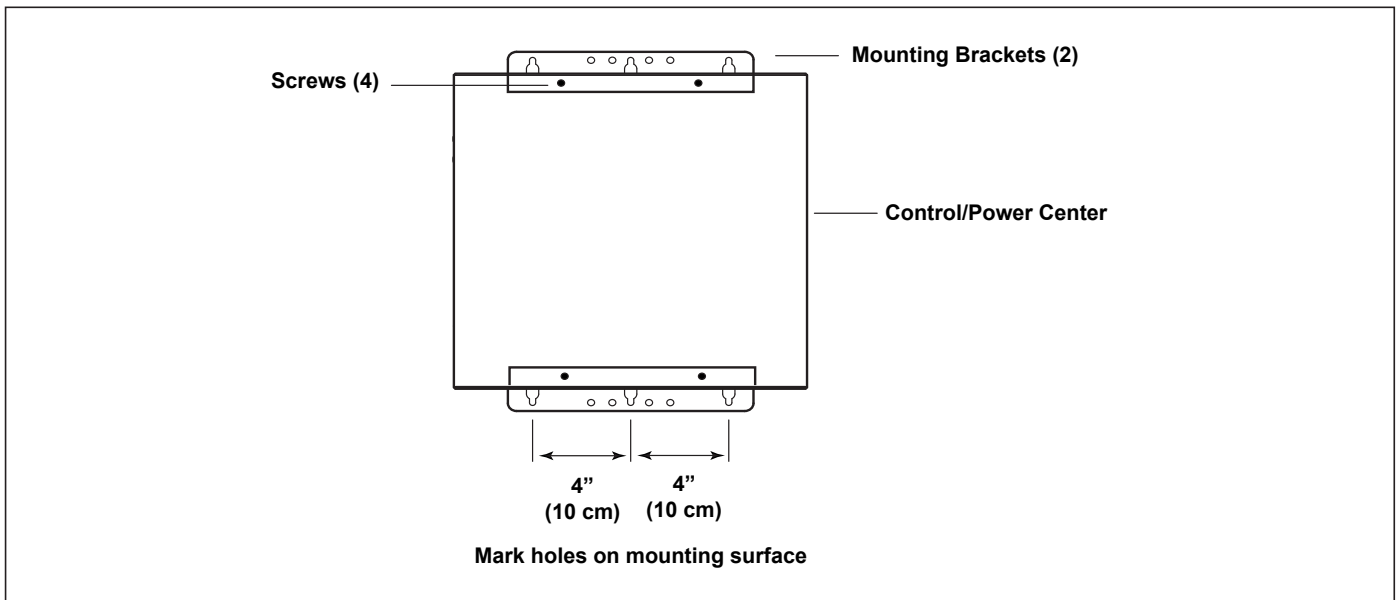

Figure 7. Power Pack Installation
- The control/power center comes with two (2) full length, heavy duty mounting brackets *fastened* to the back of the power center during shipping. Remove the four (4) screws that are holding the two (2) brackets and the cardboard shipping cover in place (see Figure 7). Remove and discard the cardboard.
- Using the top mounting bracket as a guide, mark three (3) holes on the mounting surface where the power center will be installed. Drill the holes in the mounting surface.